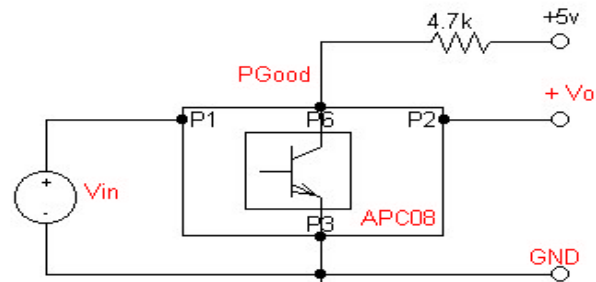

Figure 6. PG Good setup.
7. See Figure 6 for PGood configuration
PG pin provides an output signal indicating the  $V_{out}$  is operational (TTL logic signal). It can sink current up to a max of 5mA and can have a maximum external pull-up voltage of 6V. Please see recommended setup shown on Figure 6.